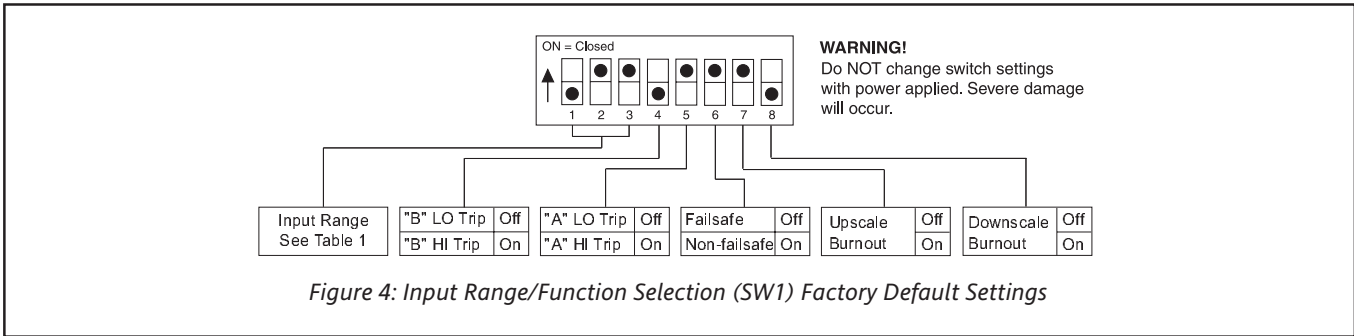

Figure 4: Input Range/Function Selection (SW1) Factory Default Settings
2. Set positions 4 and 5 of "SW1" to ON for a HI trip setpoint or OFF for a LO trip setpoint (Figure 4).